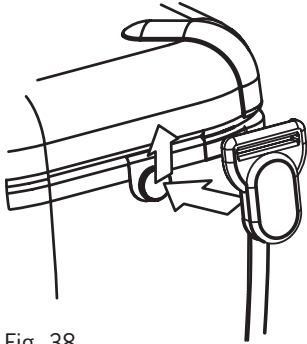

Fig. 38
Correct assembly is shown in Fig 38, 39 and 40. By hanging the instrument round the neck, both hands will be left free for testing.
1. Attach the Buckle to the KT64DL as shown in Fig.38.